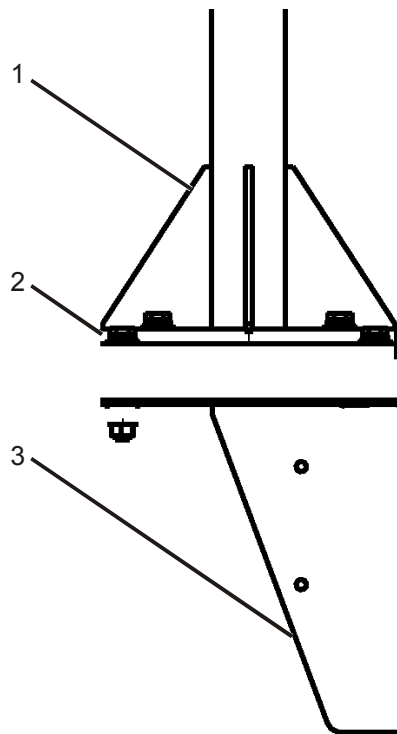

Figure 2-17. Antenna Installation
(See Figure 2-17)
- c. Connect HLA shelter antenna to the each antenna mounting using four bolts, spring washers, flat washers and nuts (see Figure 2-17).